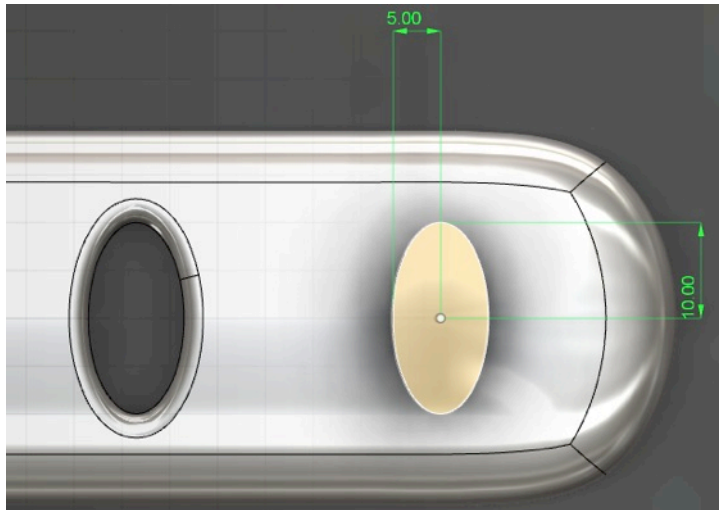

Fig. W13
- b. Under sketch, select “ellipse” and draw an ellipse near the end of the front bracelet (Fig. W13).